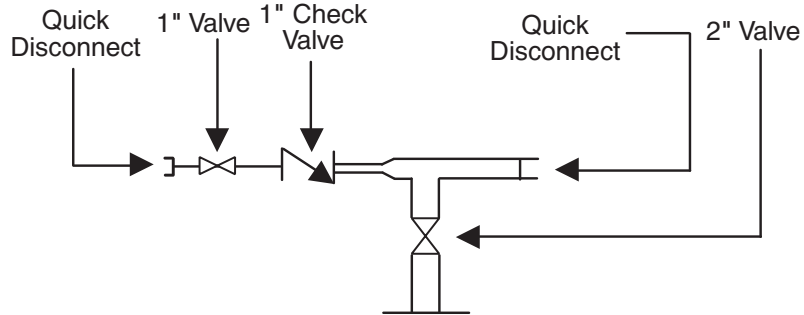

FIGURE 3 - Unloading Assembly
5. Connect the unloading assembly to the eductor pipe. (Figure 3,4)